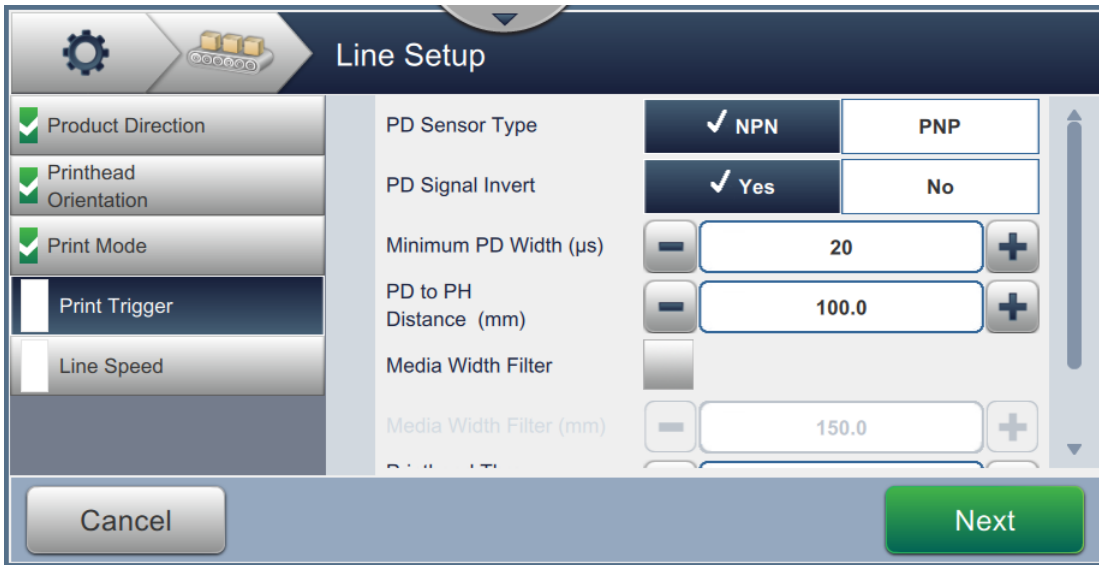

Figure 6-33: Line Setup - Print Trigger
1. Touch the option *Print Trigger* in the Line Setup Setting screen as shown in Figure 6-33.